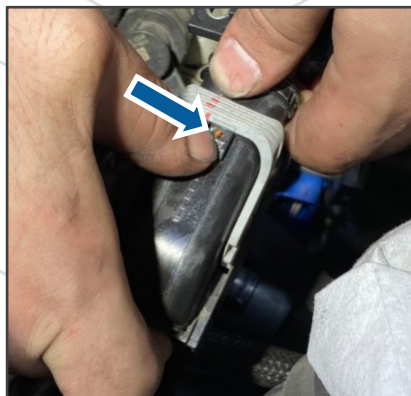

Figure 15
- b. To disconnect it from the ECU there is a small tab that you must push down while you pull on the lever. (Figure 15)
- b. To disconnect it from the ecu there is a small locker that you must push down while you pull on the lever. (Figure 15)